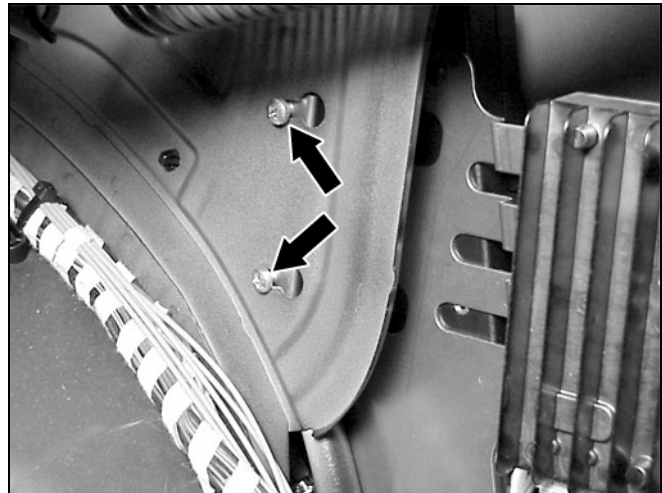
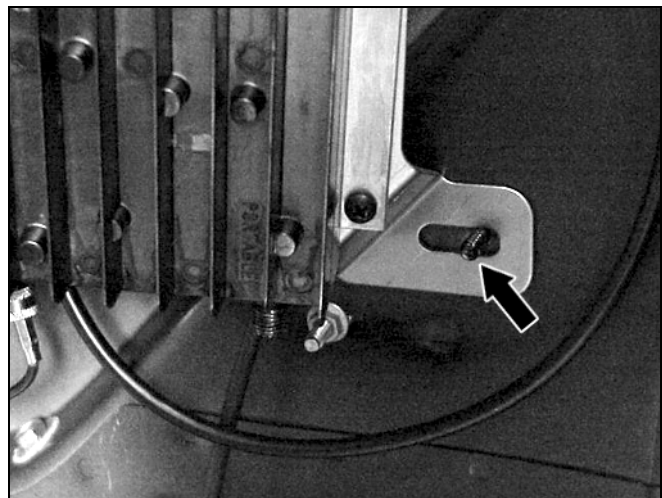

Figure 7
Figure 8
8. Thread the two sheet metal screws halfway into the mounting bracket tabs (Figure 7 [shows the bracket already mounted]).
9. Seat the completed bracket assembly by placing the two screws extending from the tabs through the backside of the mounting plate (Figure 7) and the slot of the adjacent mounting tab over the quarter-panel stud (Figure 8).